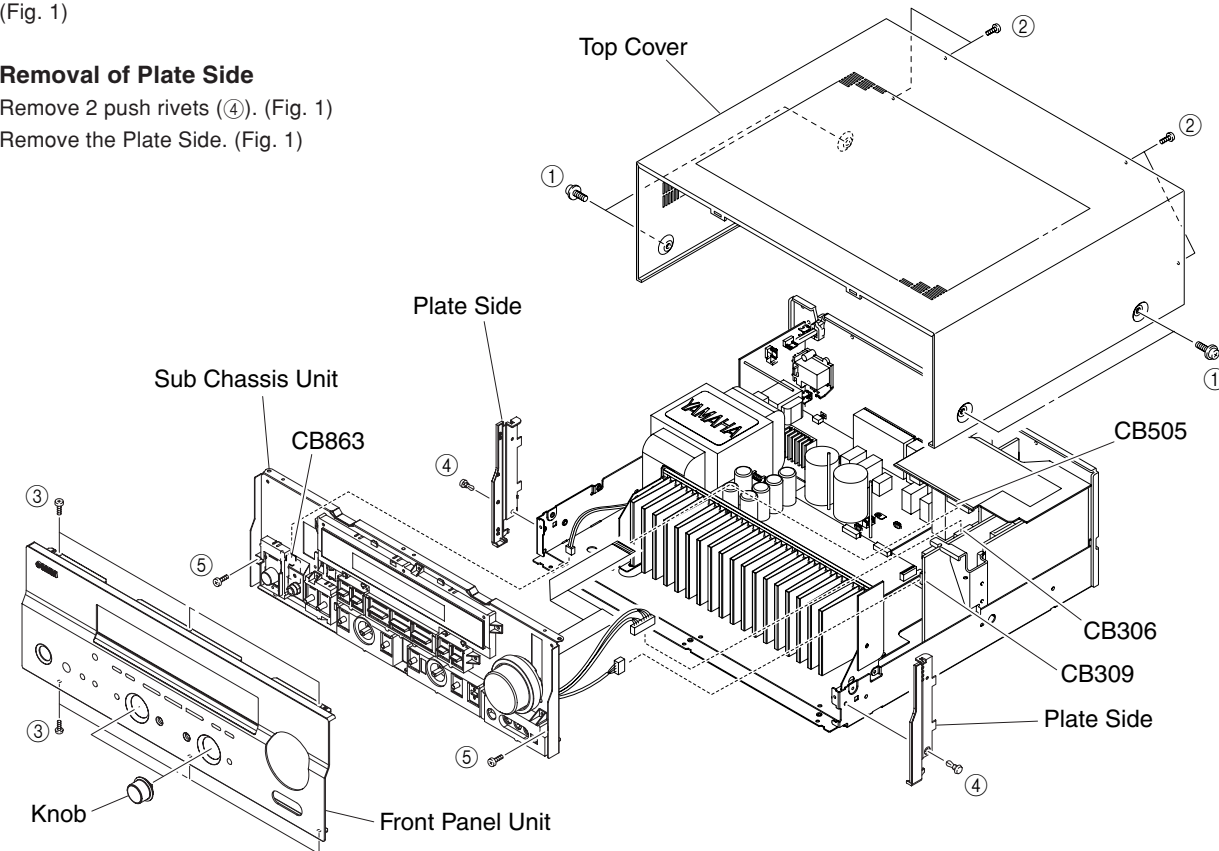

Fig. 1
- Remove 4 screws (①) and 4 screws (②). (Fig. 1)
- Slide the Top Cover rearward to remove it. (Fig. 1)
- Remove 2 Knobs. (Fig. 1)
- Remove 6 screws (③) and then remove the Front Panel Unit. (Fig. 1)
- Remove 2 push rivets (④). (Fig. 1)
- Remove the Plate Side. (Fig. 1)
- Remove 2 screws (⑤) and then slide the Sub Chassis Unit forward. (Fig. 1)
- Remove CB306, CB309, CB505 and CB863 and then remove the Sub Chassis Unit. (Fig. 1)